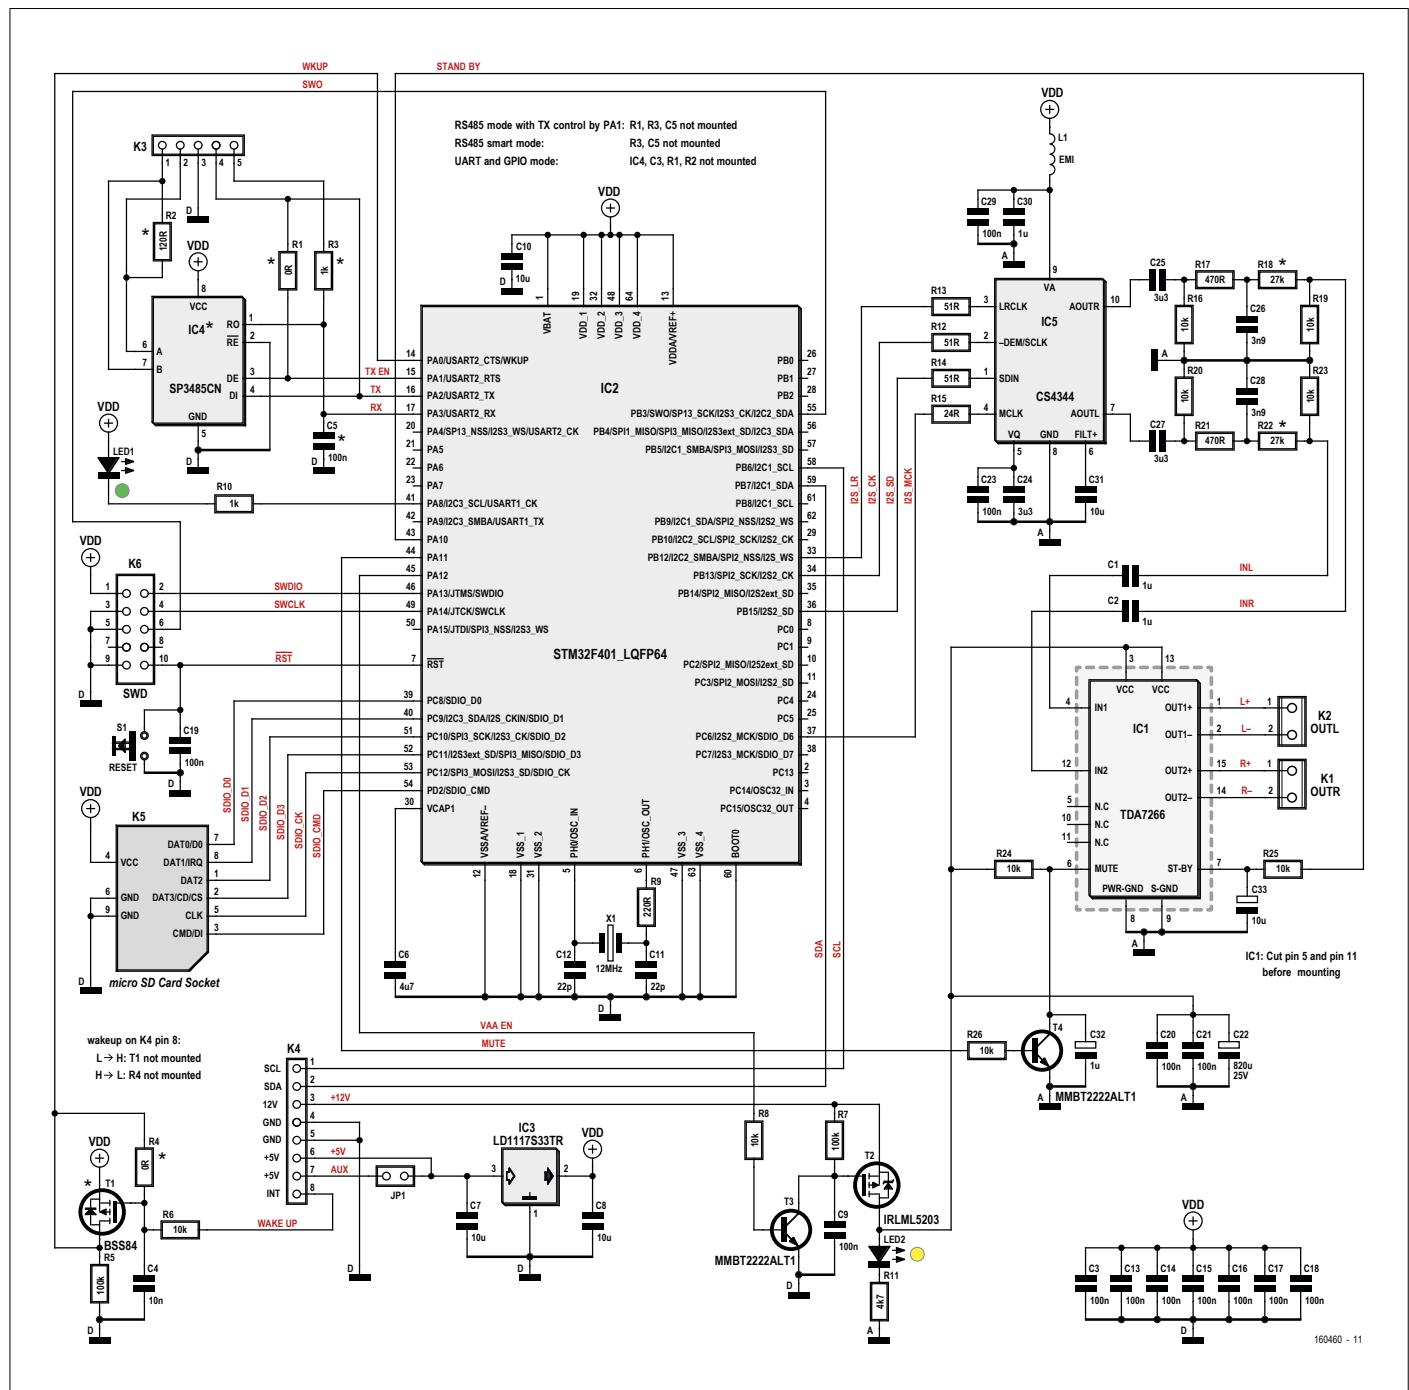

Figure 1. Schematic of the Card Sound module.
In the schematic given in **Figure 1** let's follow the flow of audio data, beginning with the micro SD card in its holder K5. The card is linked to the microcontroller IC2 via an SDIO data bus. The SDIO data bus makes bidirectional data transfer possible and includes a 4-bit wide data bus (D0 to D3), a clock (CK) and a command line (CMD). The finer points